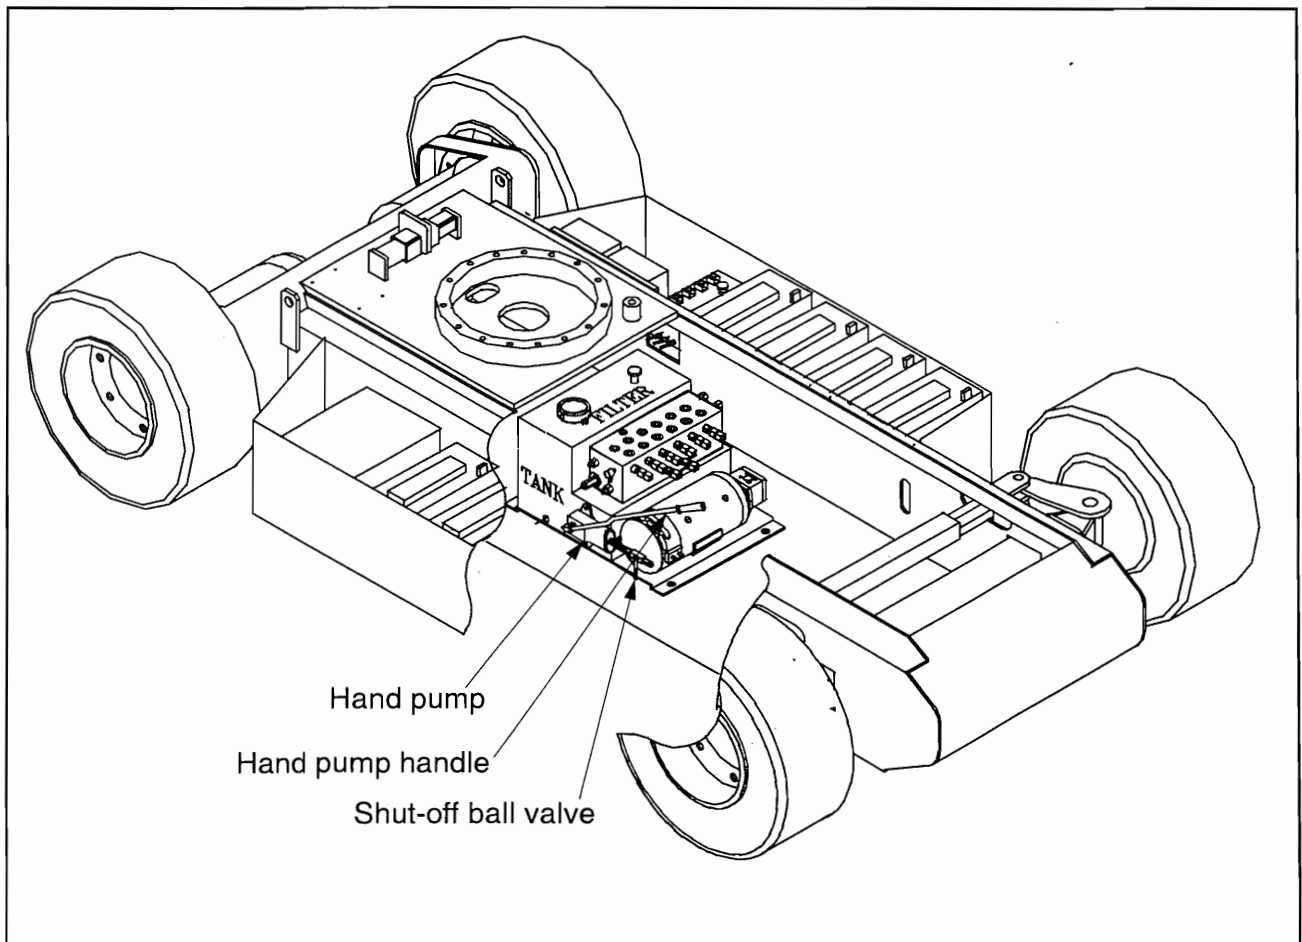

Figure 3-4: Manual Tele Retraction Hand Pump
* Manual Tele Retraction (Figure 3-4)